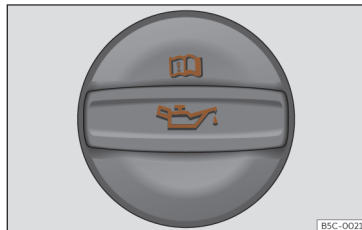

Fig. 231 Oil filler cap cover in the engine compartment.
- Locate the engine oil filler cap. It can be recognized by the symbol on the cover >>> **Fig. 231.**
- Unscrew cap from the oil filler mouth >>> **Fig. 231.**